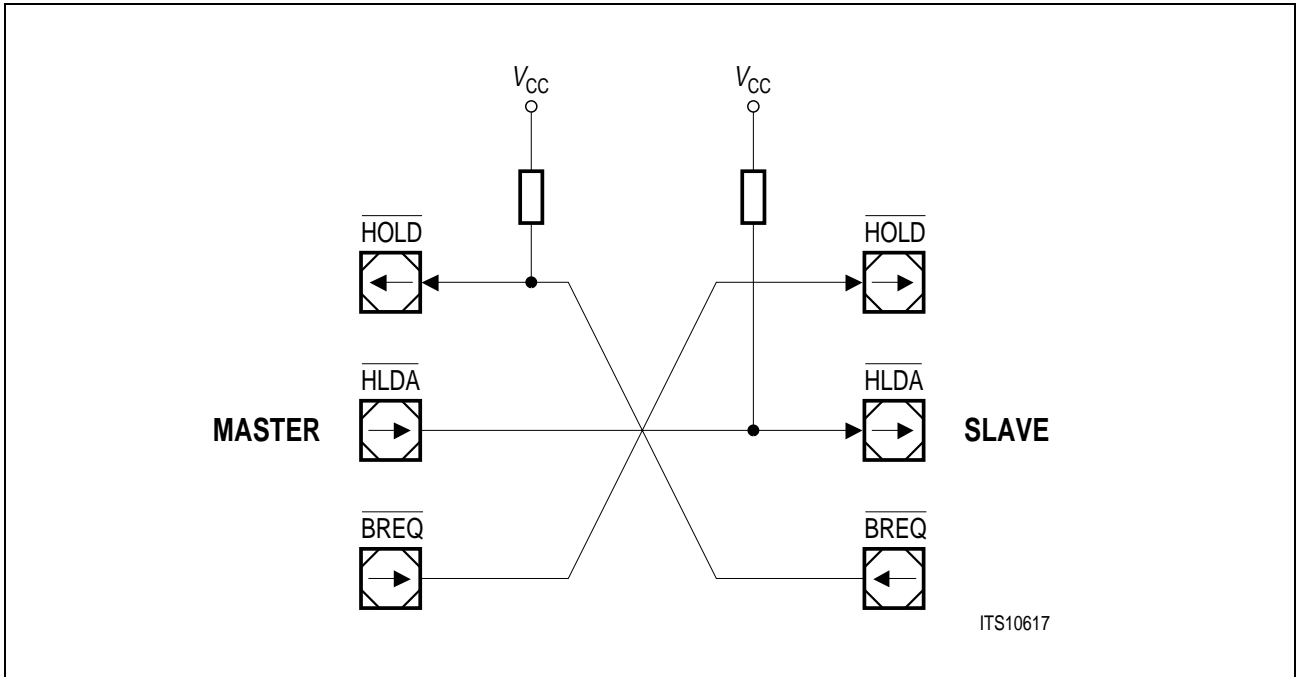

Figure 31 Connection of the Master and Slave Bus Arbitration Signals
**Figure 31** below shows the correct connection of the bus arbitration signals between the master and the slave. In order to provide correct levels during initialization of the master and the slave, two external pull-up devices are required. One is connected to the master's  $\overline{\text{LHOLD}}$  input, the other to the slave's  $\overline{\text{LHLDA}}$  input.